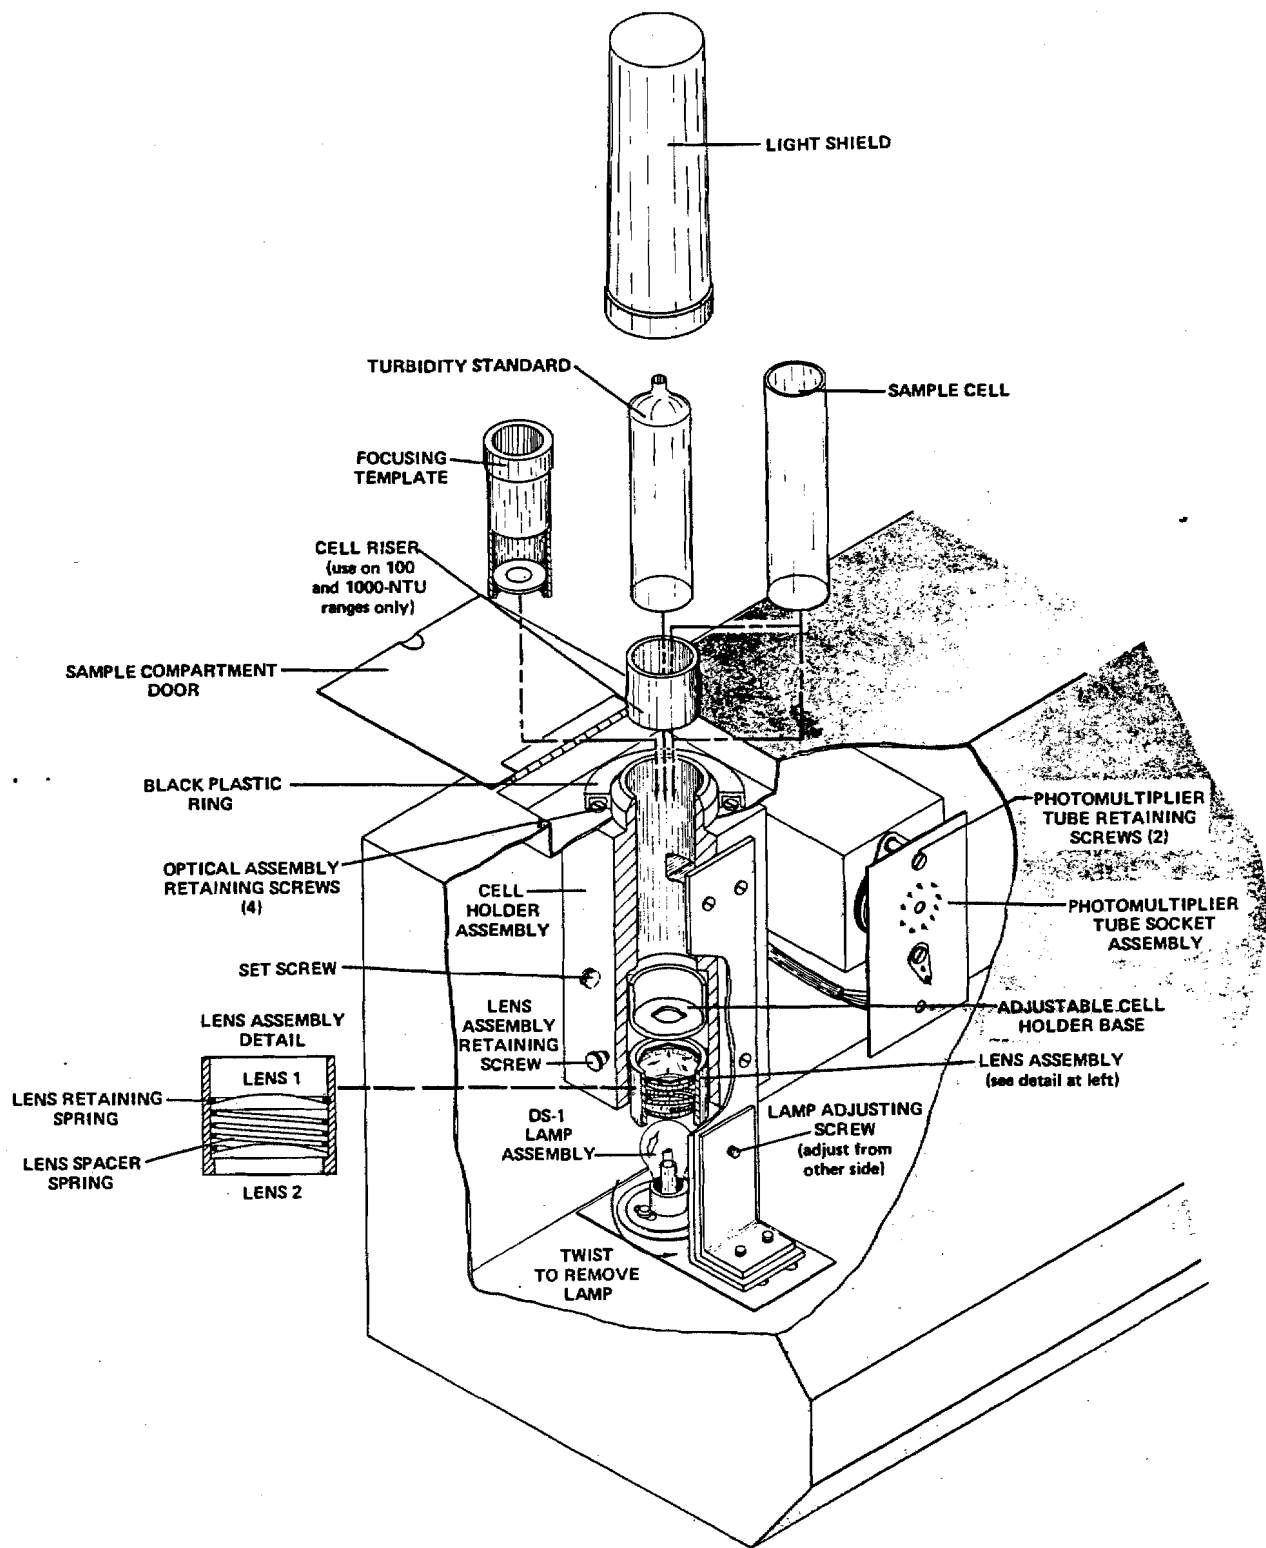

FIGURE 3
When measuring turbidities on the 0 - 100 and 0 - 1000 NTU ranges, a cell riser is inserted into the cell holder assembly to raise the sample cell. See Figure 3. The riser decreases the light path length which results in increased linearity in the measurement of high turbidities. A foam and plastic retriever tool is included with the accessories to remove the cell riser from the instrument.
Instrument standardization is achieved with the aid of four liquid turbidity standards, one for each range except the lowest. The turbidities of all four standards are based on Formazin dilutions. The standards (furnished with the instrument) are rated at 1, 10, 100 and 1000 NTU and are contained in sealed glass tubes. The first (1.0) is a high-molecular-weight polymer dissolved in water and the other three standards are liquid latex solutions. When placed in the instrument, the standards scatter an amount of light proportional to the NTU ratings specified on the tubes. Standardization is accomplished by selecting the desired range, placing the appropriate standard in the instrument and, with the light shield in place, adjusting the STANDARDIZE control to obtain a meter reading equal to the NTU value of the standard. When standardizing the 100 and 1000-NTU ranges, the cell riser must be used. See Figure 3.
Unplug the power cord and open the back panel of the turbidimeter. The lens assembly is held in place by a brass retaining screw on the side of the cell holder assembly. *See Figure 3.* Before removing the lens assembly, be sure to mark its original position in the cell holder so that the factory focusing of the instrument is not changed when the unit is reassembled. Wipe each lens with a tissue or towel that will not leave an oil film.
2. View from above, through the sample cell holder opening. The lamp image must be centered in the circle of the focusing template. If it is not, loosen the lamp adjusting screw directly above and behind the lamp. *See Figure 3.*
7. Remove the lamp by twisting approximately 1/8 of a turn counterclockwise (looking down on bulb). *See Figure 3.*
3. Open the sample compartment door on top of the instrument and carefully remove the black plastic ring inside. *See Figure 3.*